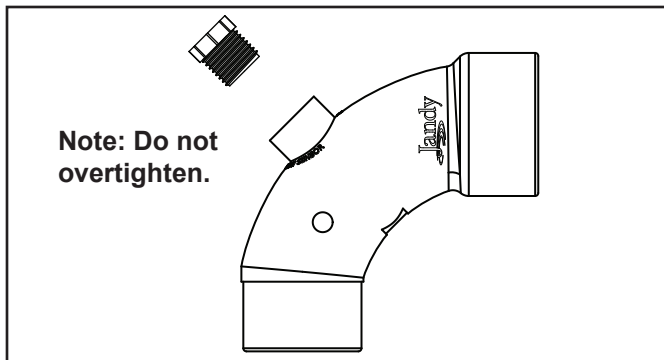

Figure 6. Sweep Elbow
- a. The larger JS series sand filters come with a Jandy Sweep Elbow for this purpose. The sweep elbow also includes a threaded port and plug so that a ½" hose bib can be connected for pressure testing. See Figure 6.